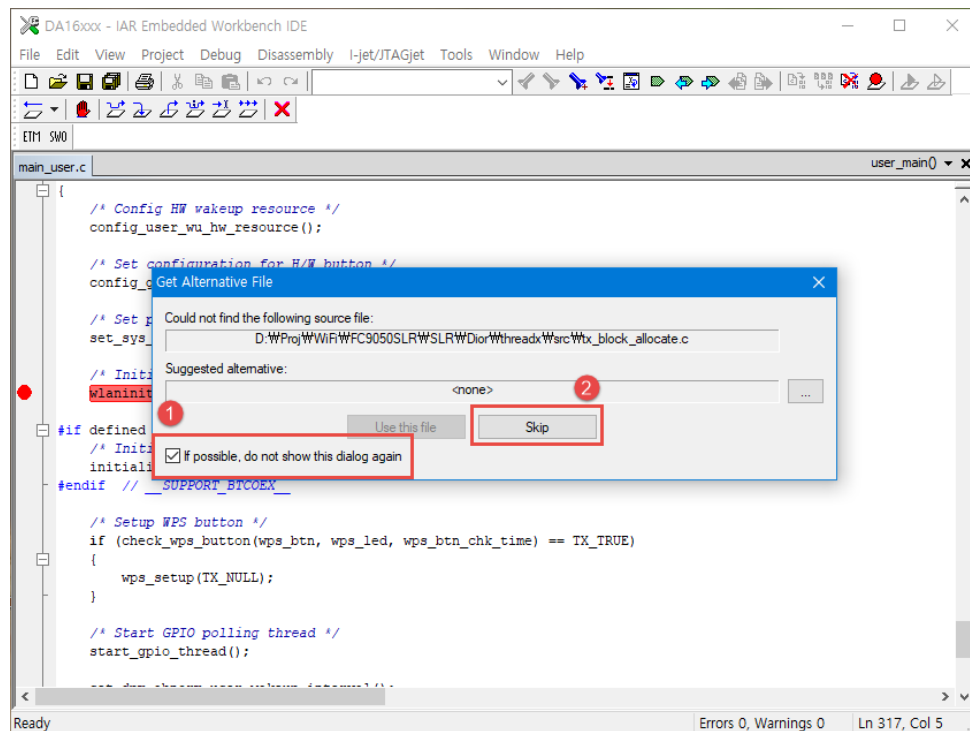

Figure 45: Pop-Up Message
- Click the check button in error pop-up window. See Figure 45.